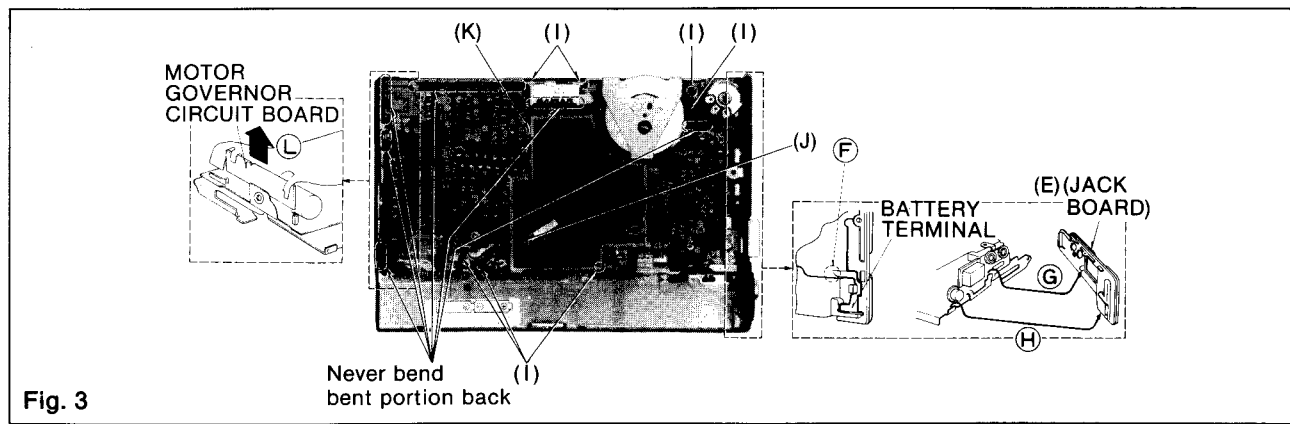
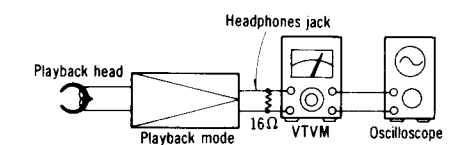
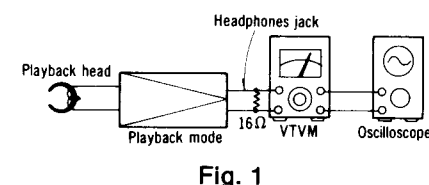

Fig. 3
Fig. 1
Fig. 1
Head azimuth adjustment Condition: • Playback mode Equipment: • VTVM • Oscilloscope • Test tape (azimuth) ... QZZCFM • Stereo M3 plug • Resistor (16Ω)	Head azimuth adjustment and precautions Rough adjustment 1. Remove the cassette lid before head azimuth adjustment. Fine adjustment 2. Fine adjust after installing the cassette lid (without the cap). (The cap can be easily removed by pressing it from the rear of the cassette lid.) 3. After adjustment, be sure to apply screw lock agent to the adjustment screws before installing the cap. L-CH/R-CH output balance adjustment 1. Make connections as shown in fig. 1 and 2. 2. Playback the 8kHz signal from the test tape (QZZCFM). Adjust screw (B) in fig. 3 for maximum output L-CH and R-CH levels. When the output levels of L-CH and R-CH are not at maximum at the same time, readjust as follows. 3. Turn the screw shown in fig. 3 to find angles A and C (points where peak output levels for left and right channels are obtained). Then, locate the angle B between angles A and C, i.e., a point where L-CH and R-CH output levels come together at maximum (Refer to figs. 3 and 4).
L-CH/R-CH phase adjustment 4. Make connections as shown in fig. 2 and 5. 5. Playback the 8kHz signal from the test tape (QZZCFM). Adjust screw (B) shown in fig. 3 so that pointers of the two VTVMs swing to maximum and a waveform as illustrated in fig. 6 is obtained on the oscilloscope.    Note: Refer to Mechanical Parts Location for head replacement procedure.